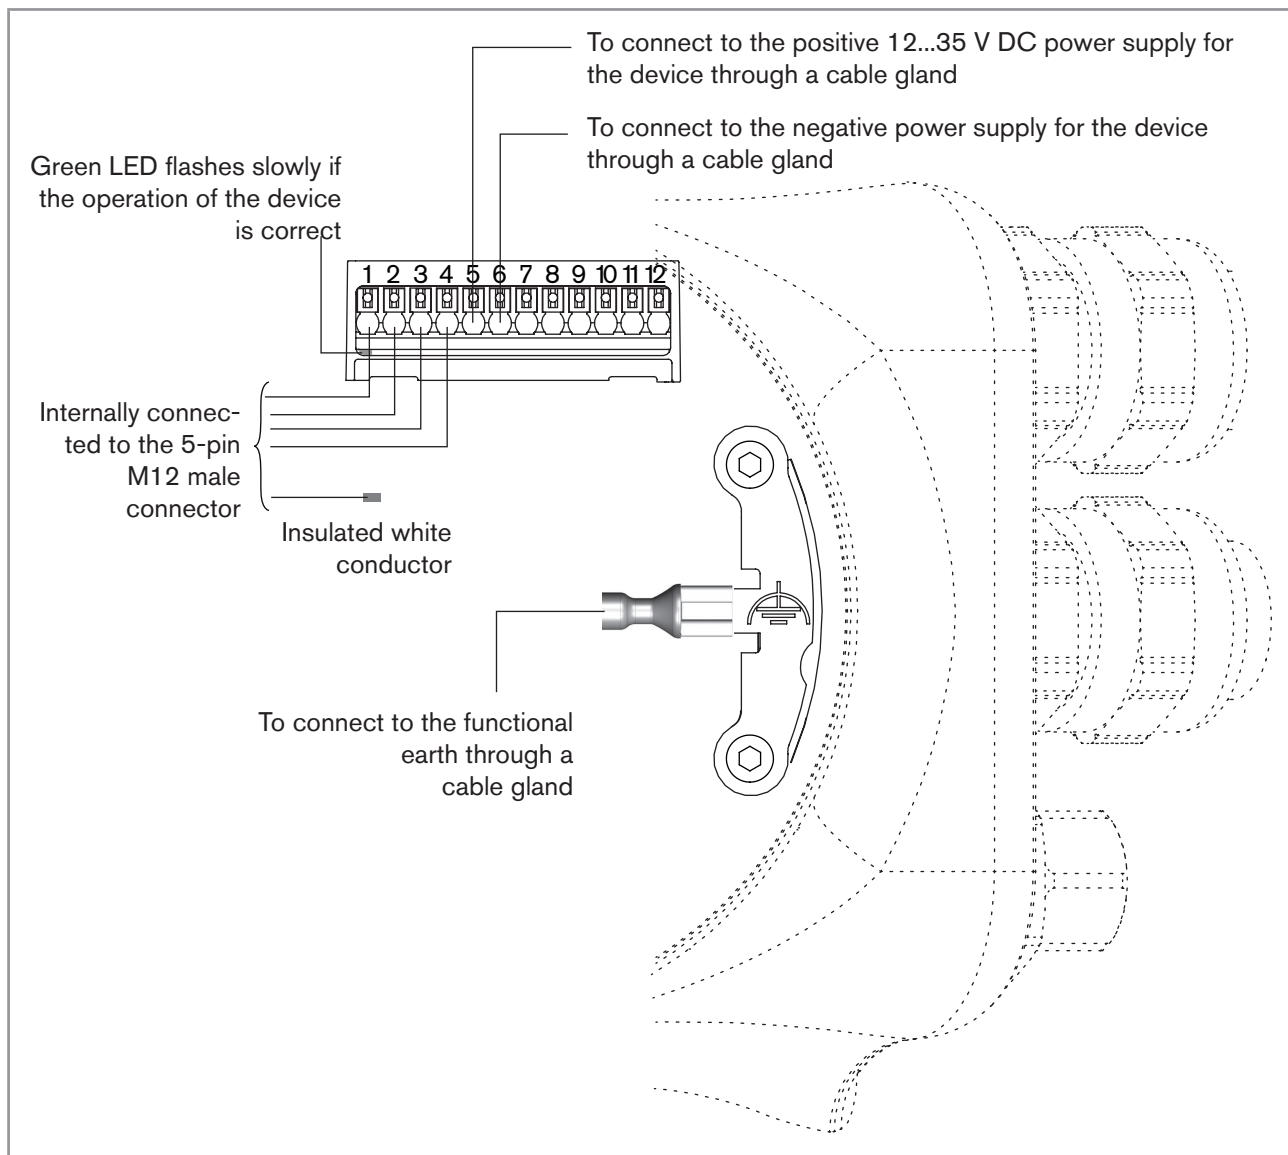

Fig. 30 : Connecting the 12...35 V DC power supply through the M20x1,5 cable glands
- either to the functional earth plate in the transmitter housing (see Fig. 30 in chpt. 8.14),
3. Connect the power supply as shown in Fig. 30.